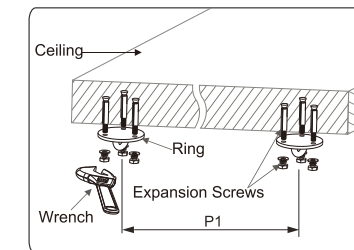

Figure 1
1. Fix the rings (not accessories) on the ceiling according the distance P1 between two hooks (note: make sure each of rings can endure at least 100Kg to avoid falling down) (figure 1).